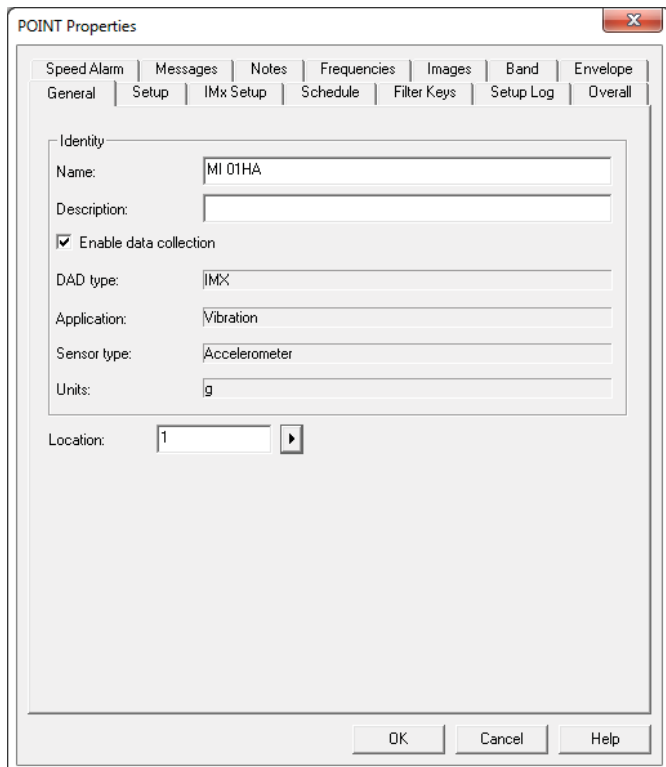

Fig. 5. Point Properties' General tab.
- 5 From the **Point Properties** window, choose the **General** tab (→ **fig. 5**).